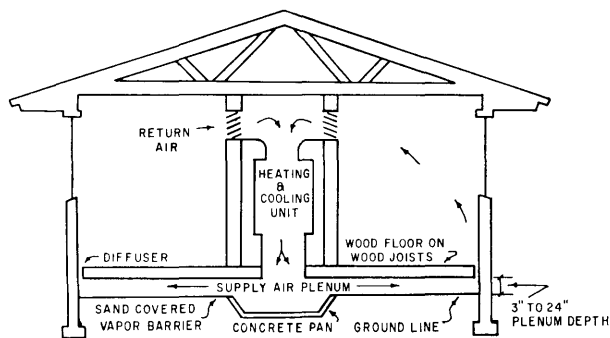

Figure 2. Sketch of a wood floor system with ductless, underfloor-plenum air distribution for heating and cooling single-family houses.
Plenum Construction.—A ductless, underfloor-plenum system for distributing warm and cool air (Figure 2) is permitted in all the jurisdictions except Dade County and Miami. Dade County regulations will not permit the use of wood or other combustible materials in the supply air circulation system. Miami building officials objected to the plenum because of the lack of insulation and because of anticipated problems with insects. They also contended that “dead air” in the plenum might promote rot of wood members when the mechanical system is not in use. Actually, with proper drainage, the plenum space under the house tends to be drier than the living area in the house, thus creating an unfavorable environment for insects, vermin, and decay (1). By means of chemical soil poisoning and adequate preservative treatment of the wood members in the floor system, protection against insects and decay can be obtained. The amount and kind of insulation, as in any building, is generally a function of initial cost versus operating costs and can be installed as needed.